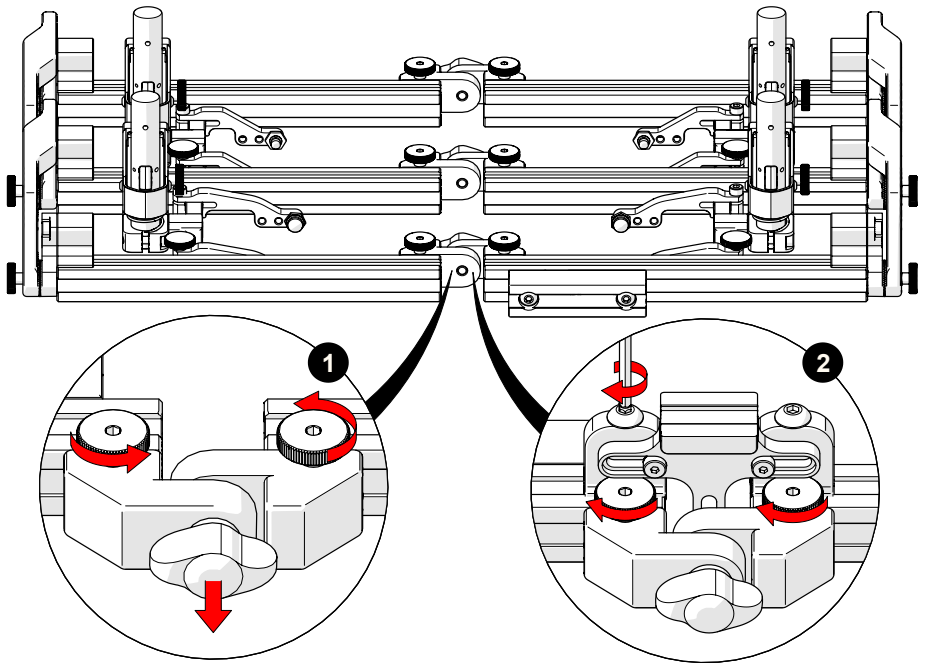

Fig. 253 - Optical guide pivot mount installation
1. Remove the dovetail bar pivot from one of the sets of **1** frame bars (Fig. 253). The choice of which dovetail bar pivot to remove is at the user’s discretion.
2. Attach the optical guide pivot mount to the **2** frame bars (Fig. 253), tighten the dovetail knobs and the dovetail screws. Ensure a flush alignment of the pivot mount and the frame bars to achieve proper centring of the optical guide pivot mount.